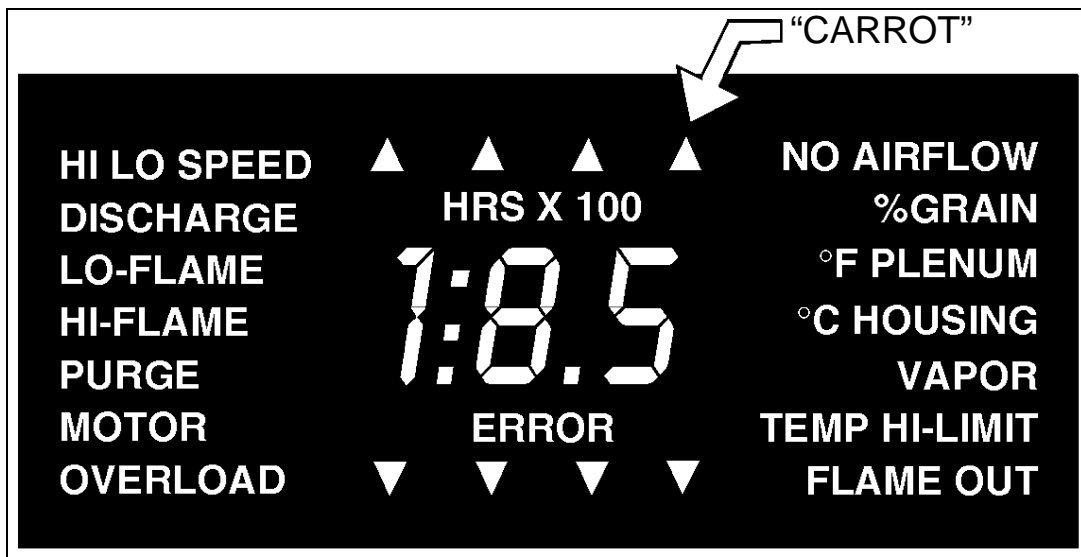

Figure 3C Dryer LCD Display
1. Press the PROGRAM (TIMERS) button until the “carrot” (See Figure 3C) is above the timer you want to modify.